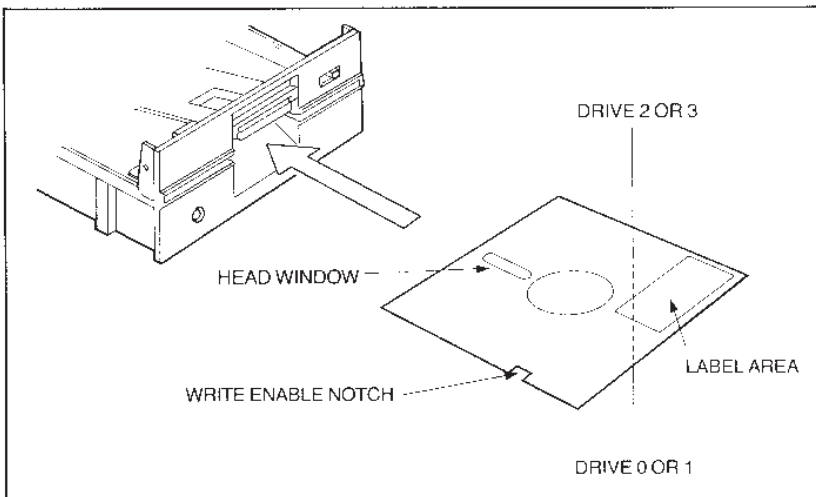

Figure 9. Insertion of the disk.
4. Disks should be inserted into the drive with the label towards the user and facing the closing trap door - i.e. with the oblong slot facing away from you as you gently push the disk into the drive. See Figure 9.